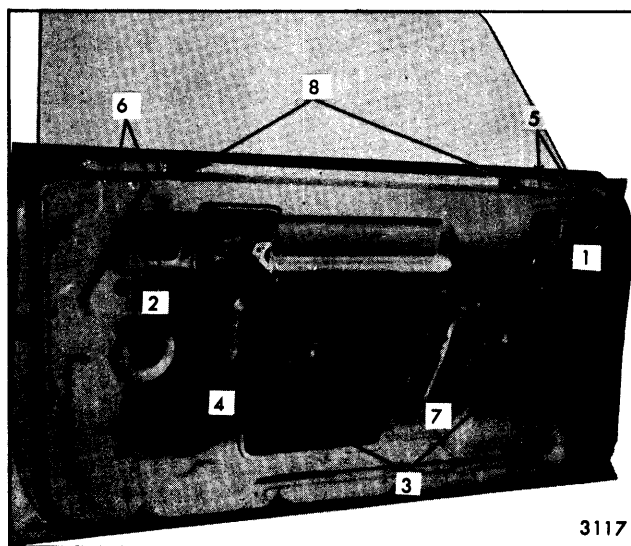
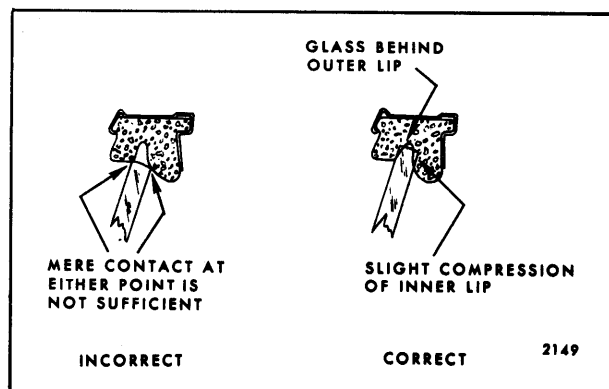

Fig. 6-94—Front Door Window Removal and Adjustment
Fig. 6-95—Window to Side Roof Rail Weatherstrip Alignment
2. With the window in the full-up position, remove front and rear up-travel stops ("1" and "2", Figure 6-94).
3. Lower window to a three-quarter-down position; remove lower sash channel cam attaching screws ("3", Figure 6-94). Remove window from door by lifting straight-up.
A rotated glass can be corrected by adjustment of inner panel cam ("4", Figure 6-94). Up or down adjustment is available at front and rear up-travel
stops. In or out adjustment is available at front and rear guides. In addition, the regulator, on manually operated units, is equipped with a single up-travel sector gear stop. This stop is bolted to the inner panel and is adjustable up or down (See Figure 6-94).
- Adjust rear guide upper attachments ("6", Figure 6-94) for proper fore or aft position of glass.
- Adjust upper attachments of front and rear guides ("5" and "6", Figure 6-94) for proper glass to side roof rail weatherstrip relationship.
- Adjust window up-travel stops ("1" and "2", Figure 6-94) for proper glass to side roof rail weatherstrip contact (See Figure 6-95).
**NOTE:** On manually operated windows, adjust sector gear stop ("7", Figure 6-94) after adjusting up-stops "1" and "2".
- Adjust window stabilizer strips ("8", Figure 6-94) for proper glass contact and ease of window operation. The strips should